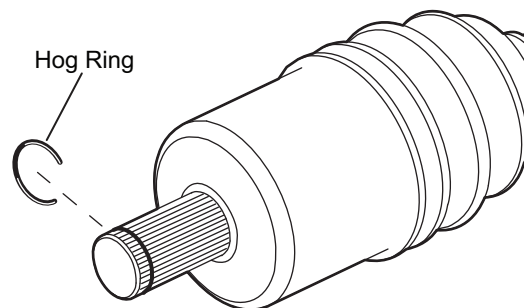

Fig. 7 Hog Ring
6. Remove the CV shaft from the differential using a pry bar. Make sure that the hog ring is in place on the CV shaft splines (Ref. Fig. 7).